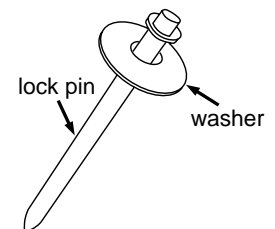

Figure 31
6. Slide the washer onto the lock pin and place inside the upper cabinet for future use as directed on page 42. See Figure 31.